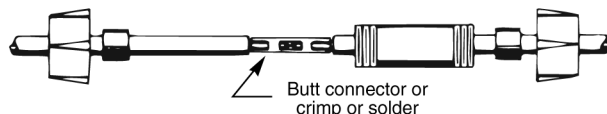

Figure 8 – Wire ends spliced.
- Insert wire end into butt connector and crimp. **Match** wire colors between power supply and motor (see Fig. 8).